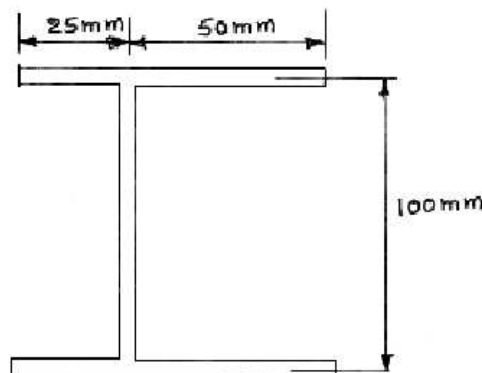

Figure 2
2. Thickness of the I section is uniform of 10 mm. Determine the shear flow and shear force for the entire structure shown in figure 2. [16]